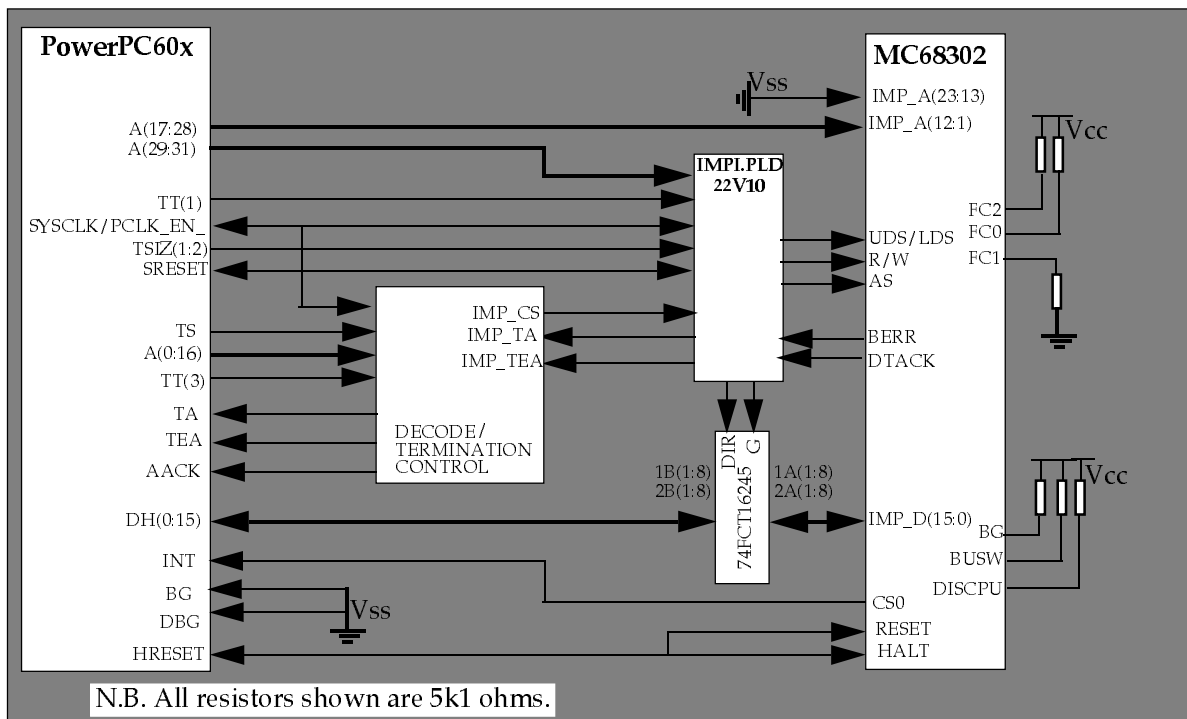

Figure 2 PowerPC60x to MC68302 Interface Block Diagram
The simple interface described here (see Figure 2) uses a single PLD22V10 and a 16-bit non-inverting transceiver. It can also be used in low power systems as 3.3V versions of all components are available.
All MC68302 internal resources (including RAM and registers) are held in a 4k-byte relocatable block, requiring eleven address lines IMP_A(11:1) to span it. Giving this block a non-zero base address means at least one other address line IMP_A(12) is required. The remaining MC68302 address lines IMP_A(23:13) are tied low. This reduces the number of connections to the PowerPC60x address bus but still allows access to the IMP's system configuration registers. Due to the different widths of the processors' data buses and the design of the interface, the PowerPC60x's three least significant address lines A(29:31) are not connected to any IMP address inputs. Instead, the least significant address line on the MC68302, IMP_A(1), is connected to the fourth least significant, A(28), on the PowerPC60x. This mapping is continued so that IMP_A(12:1) are connected, in sequence, to A(17:28) - as shown in Figure 2. With these address and data bus mappings, the addresses of internal IMP resources can be calculated as follows:-
As can be seen from the block diagram (Figure 2) and PLD equations (Listing1), the interface is designed to work with other control logic. This control logic is responsible for decoding and generating an IMP chip select and, during IMP accesses, it drives the PowerPC60x transfer termination signals (AACK, TA and TEA) in response to the IMP_TA and IMP_TEA signals from interface PLD. In fact, the design of the IMPI.PLD assumes TA and TEA will be asserted one clock after IMP_TA and IMP_TEA.
Note that Figure 2 does not show general support logic, as this is not specific to the interface design. However, it's worth mentioning that in this design HALT, BERR, DTACK and RESET all have 5k1 pull up resistors and the MC68302 is clocked using a 16.0MHz TTL-level clock.